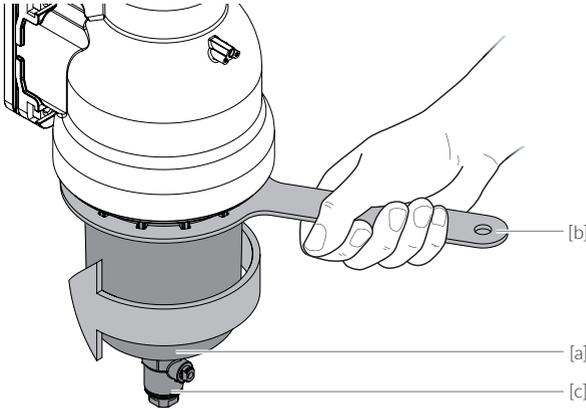

Fig. 9.9
- / Fig. 9.9: lead the CONEL mounting spanner [b] (see chapter 12, Spare parts) over the filter cup [a] from below